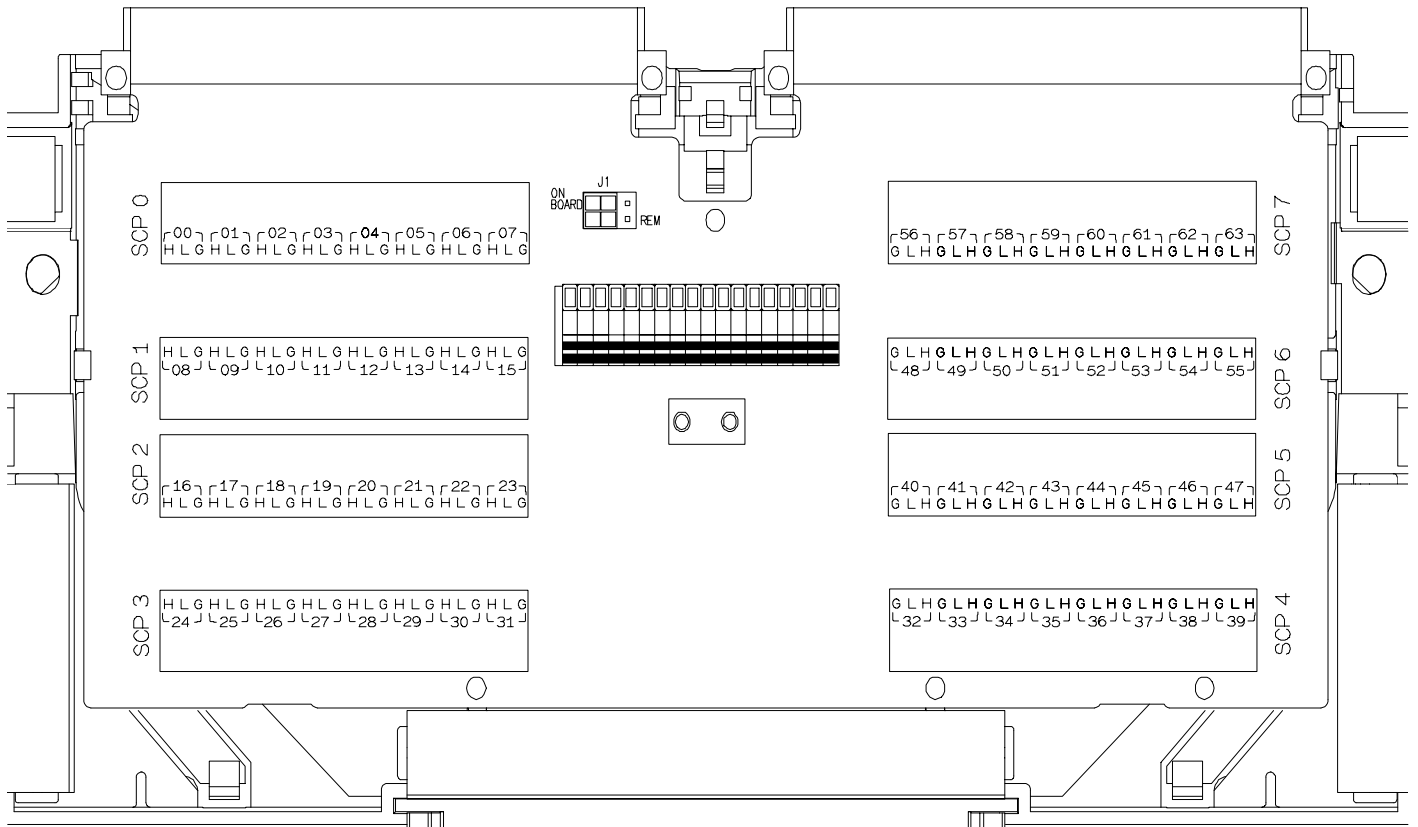

Figure 1 HP E1509 C-Size Terminal Module Connections
- For HP E1413C and above Terminal Modules, use stickers for HP E1509 SCPs. The connections are shown in Figure 1.
Open Transducer Detection (OTD) is controlled by bits in the Card Control Register. For more information on OTD see Figure 1.